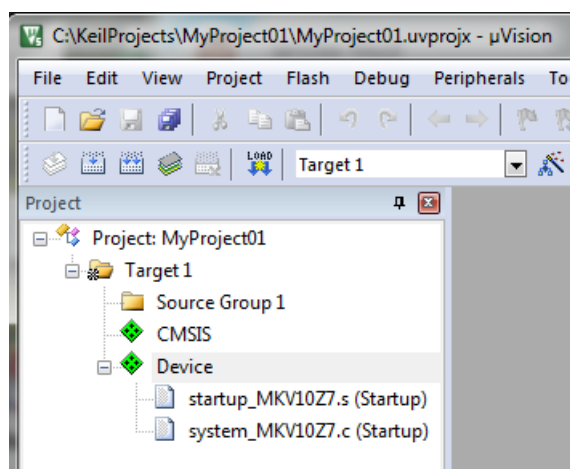

Figure 1-31. Project
10. Click OK, and a new project is created. The new project is now visible in the left-hand part of Keil µVision. See Figure 1-31.